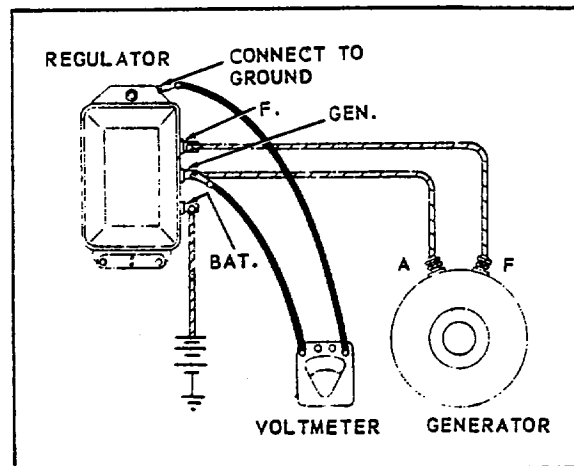
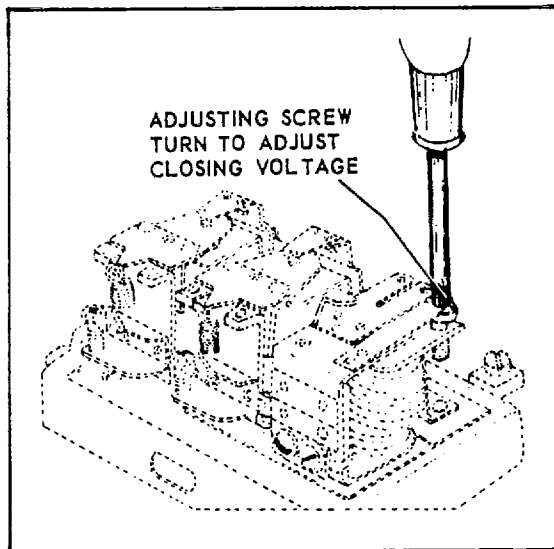

Figure 7-1D. Checking Closing Voltage of Cutout Relay
Figure 7-1E. Closing Voltage Adjustment
c. To check the closing voltage of the cutout relay, connect the regulator to the proper generator and battery, and connect a voltmeter between the regulator "GEN" terminal and the base, as shown in figure 7-1D. Slowly increase the generator speed and note relay closing voltage. Decrease generator speed and make sure that the cutout relay contact points open. (See Table VI for the proper drop in and drop out voltage.) Adjust the closing voltage by turning the adjusting screw clockwise to increase spring tension and closing voltage, or counter-clockwise to decrease spring tension and closing voltage. (See figure 7-1E.)